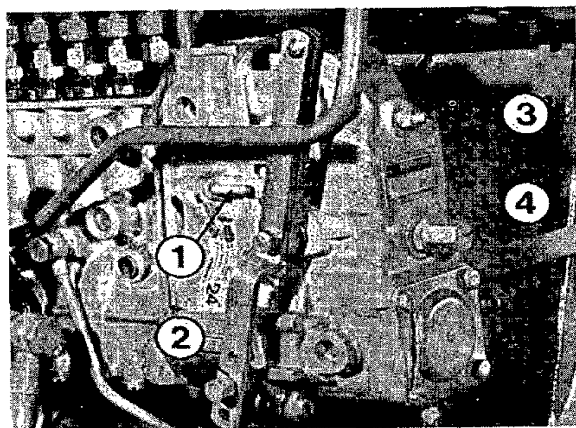

Fig. 126. Setting the speed
3. Adjust the speed if necessary by screwing the stop screw 3, fig. 126 in or out.